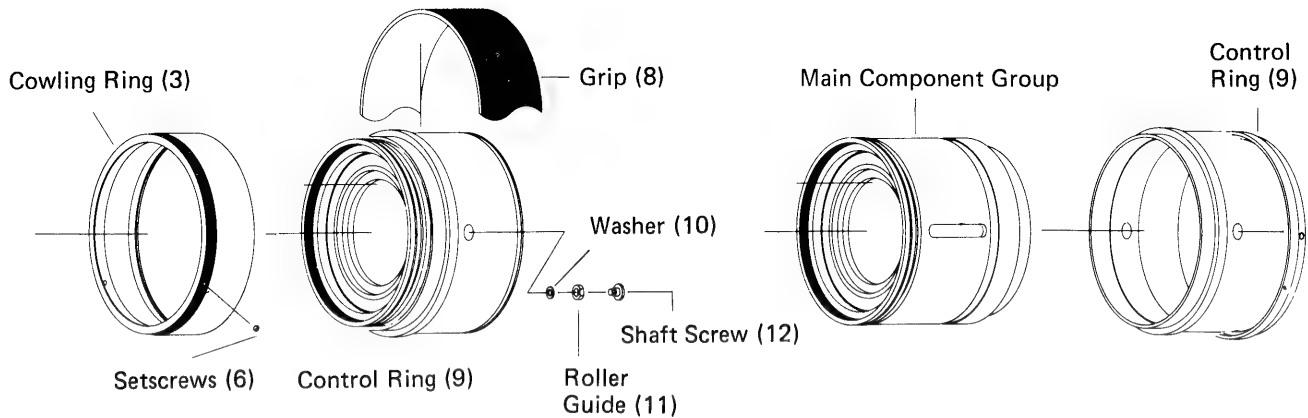

Figure 3-2. Cowling Ring and Control Ring Removal
3.2.4 Removal of Control Ring (Figure 3-2)